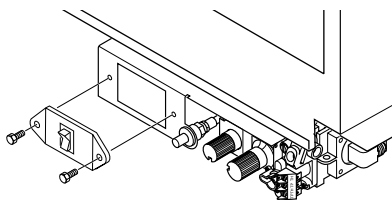

Figure 43 - Removing Switch Plate
2. Unscrew switch plate (see Figure 43).